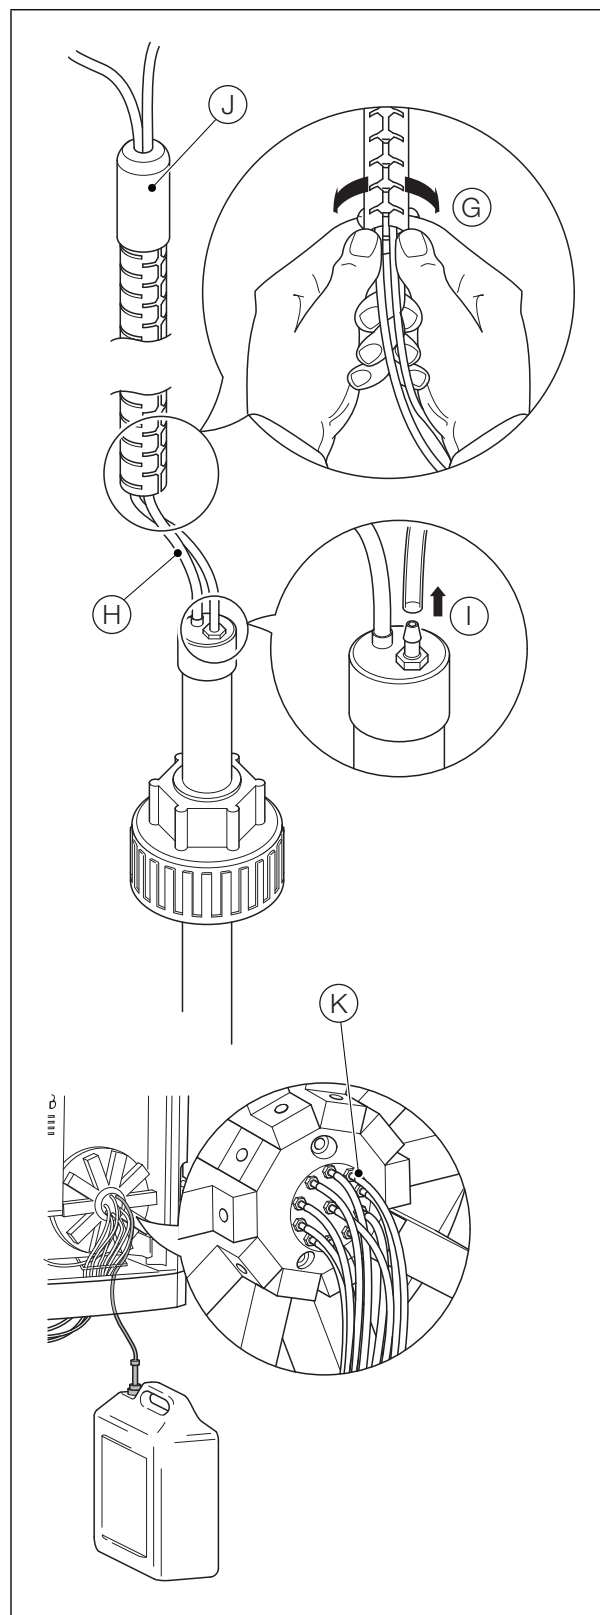

Fig. 13.7 Replacing Reagent Tube
4. Referring to Fig. 13.7:
- b. Remove the spiral wrapping (G) from the reagent tube and level sensor cable (H).
- c. Disconnect the tube from the level sensor (I) and withdraw the tube from the rubber boot (J).
- d. Insert the new tubing through the rubber boot (J) and route the tubing into the analyzer as noted in step a. Connect the tubing to the R1 connector on the valve manifold (K).
- e. Refit the spiral wrapping (G).
- f. Cut the tubing to the required length and connect it to the level sensor (I).